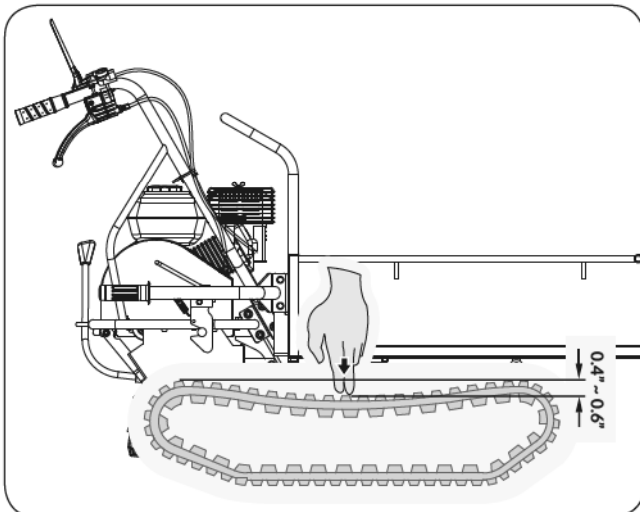

Figure 13a
3. Measure the track midline vs. the horizontal line. The reading must not be more than 0,4" ~0,6". (See **Figure 13a**)